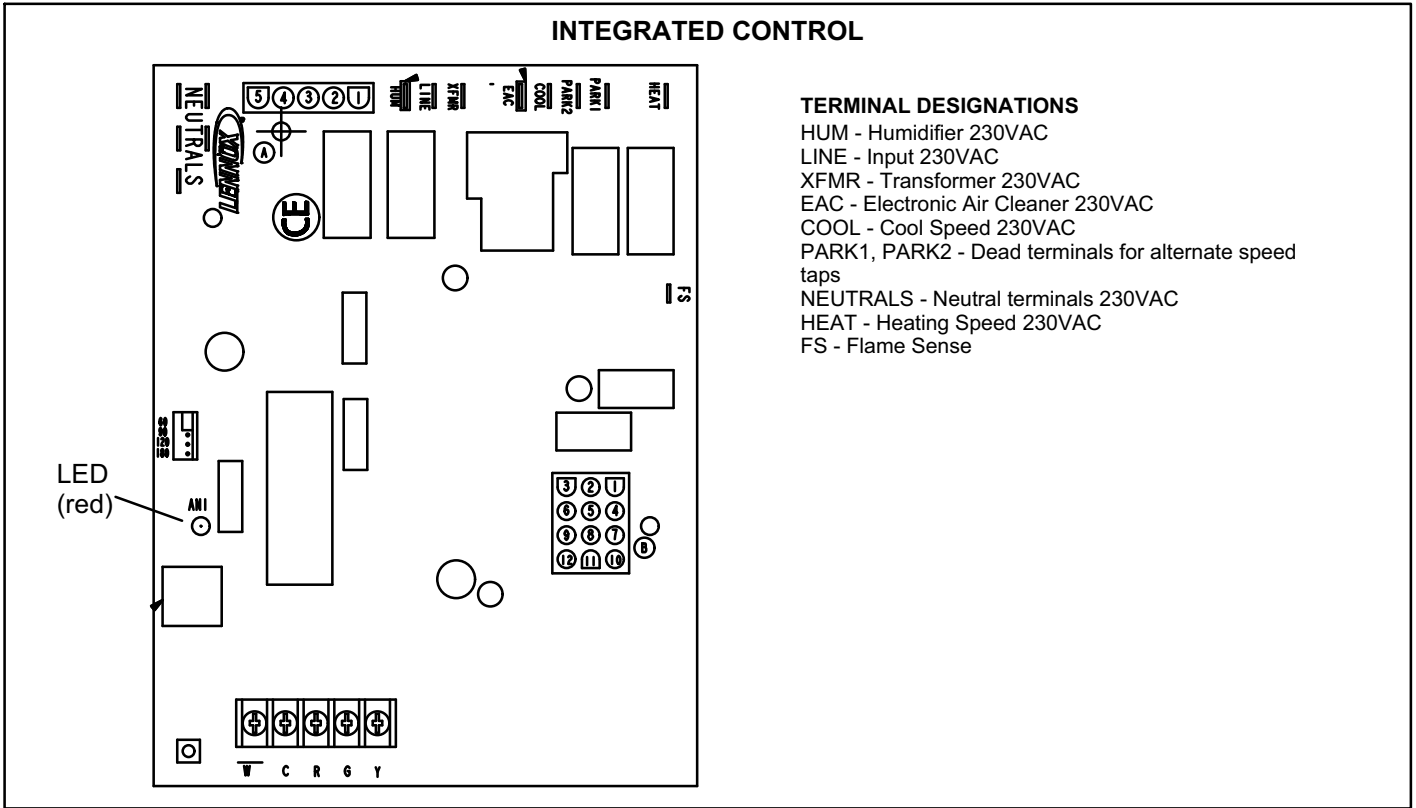
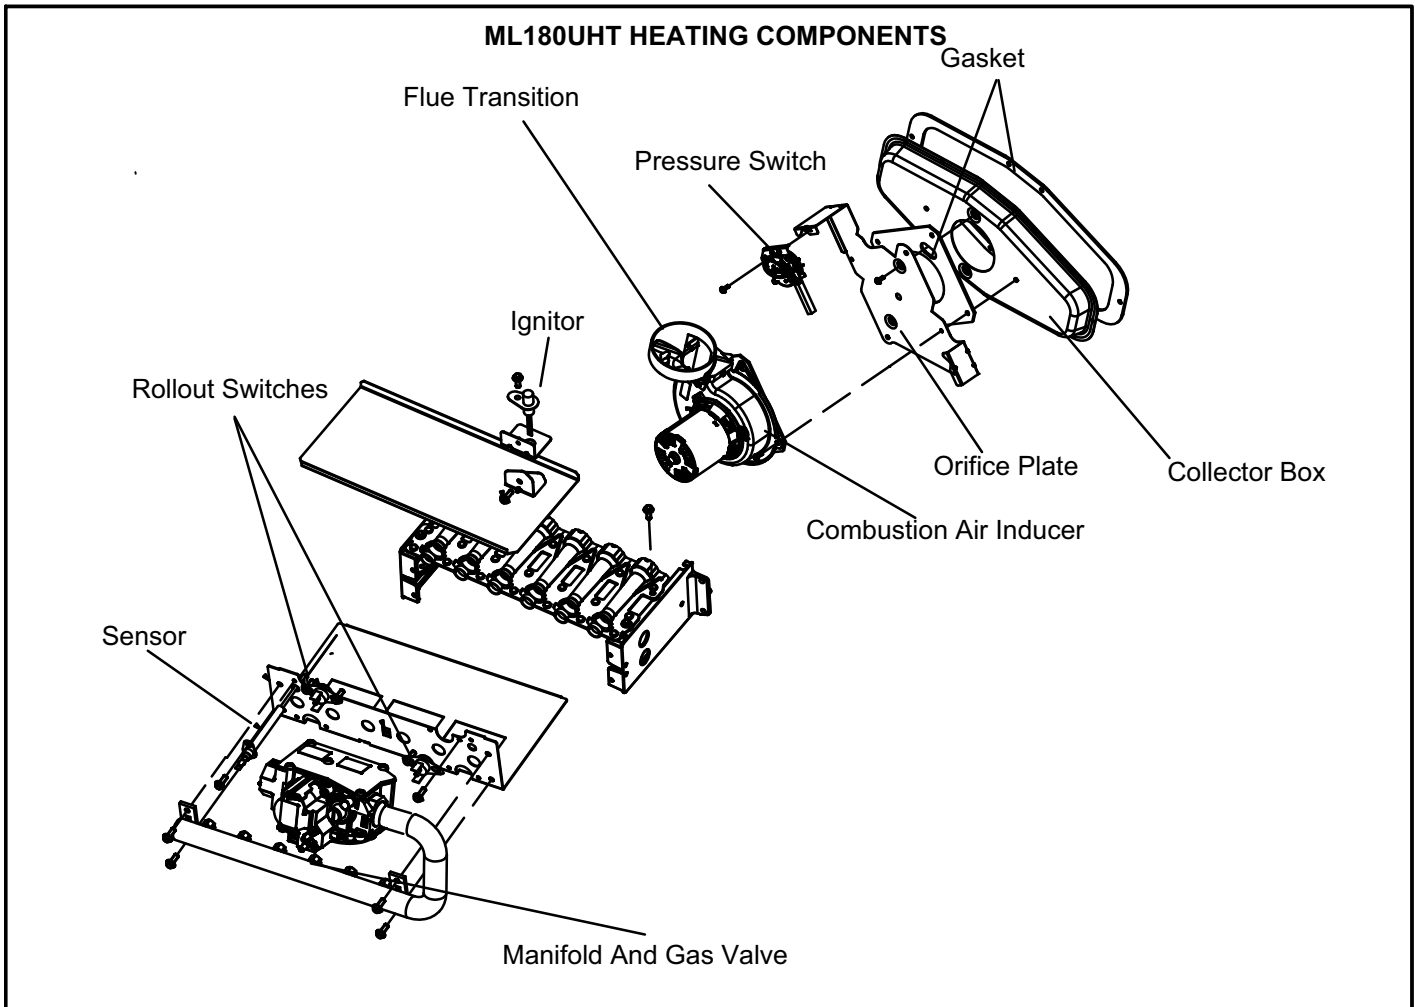

FIGURE 4
FIGURE 6
The hot surface ignition control system consisting of an integrated control (figure 4 with control terminal designations in tables 1 and 2.) sensor and ignitor (figure 6). The integrated control and ignitor work in combination to ensure furnace ignition and ignitor durability. The integrated control, controls all major furnace operations. The integrated control also features one LED light (AN1 red) for troubleshooting and two accessory terminals rated at (1) one amp. The integrated control also features a (3) amp fuse for overcurrent protection. See table 3 for troubleshooting diagnostic codes. The nitride ignitor is made from a non-porous, high strength proprietary ceramic material that provides long life and trouble free maintenance. The integrated control continuously monitors line voltage and maintains the ignitor power at a consistent level to provide proper lighting and maximum ignitor life.
5. Flame Sensor (Figure 6)
6. Flame Rollout Switches (Figure 6) (S47)
8. Ignitor (Figure 6)
9. Gas Valve (Figure 6)